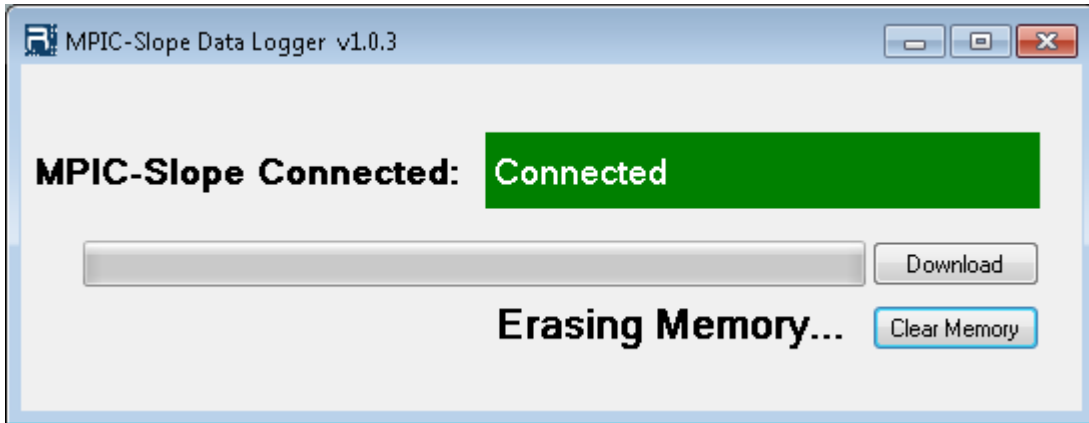

FIGURE 5.4: MAKE SURE THE LABEL INSIDE THE RED RECTANGLE IS GREEN AND SAYS "CONNECTED" AND PRESS THE "CLEAR MEMORY" BUTTON INSIDE THE PURPLE RECTANGLE.
1. Make sure the MPIC-Slope is properly connected by looking at the MPIC-Slope Data Logger application and making sure there is a green bar that says "Connected" next to the "MPIC-Slope Connected" label shown in figure 5.4.
2. Press the "Clear Memory" button shown in figure 5.4.